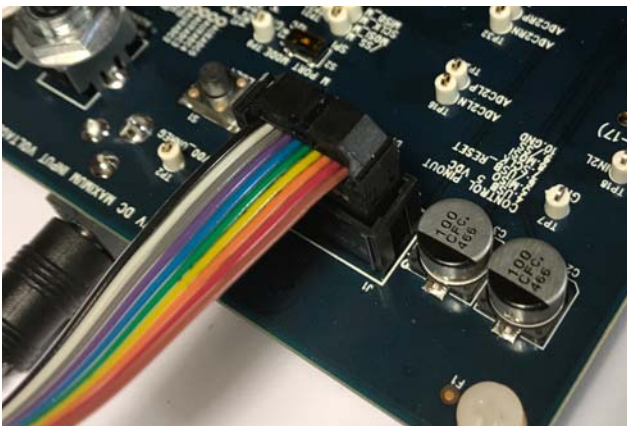

Figure 10. Connecting the USBi to the Serial Peripheral Interface (SPI) Control Port Header
4. Connect the ribbon cable of the USBi to the control port of the EVAL-ADAU1466Z (see Figure 10). The USBi must already be connected to the USB 2.0 port of the computer.